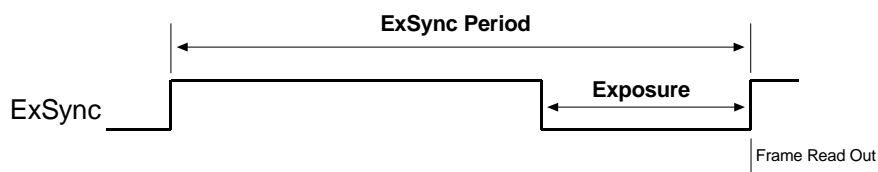

Figure 3-5: ExSync, Level-controlled Mode
- In **ExSync, level-controlled** mode, the exposure time is determined by the time between the falling edge of ExSync and the next rising edge. The pixels are exposed and charge is accumulated only when ExSync is low. The frame is read out and transferred on the rising edge of the ExSync signal (see Figure 3-5).